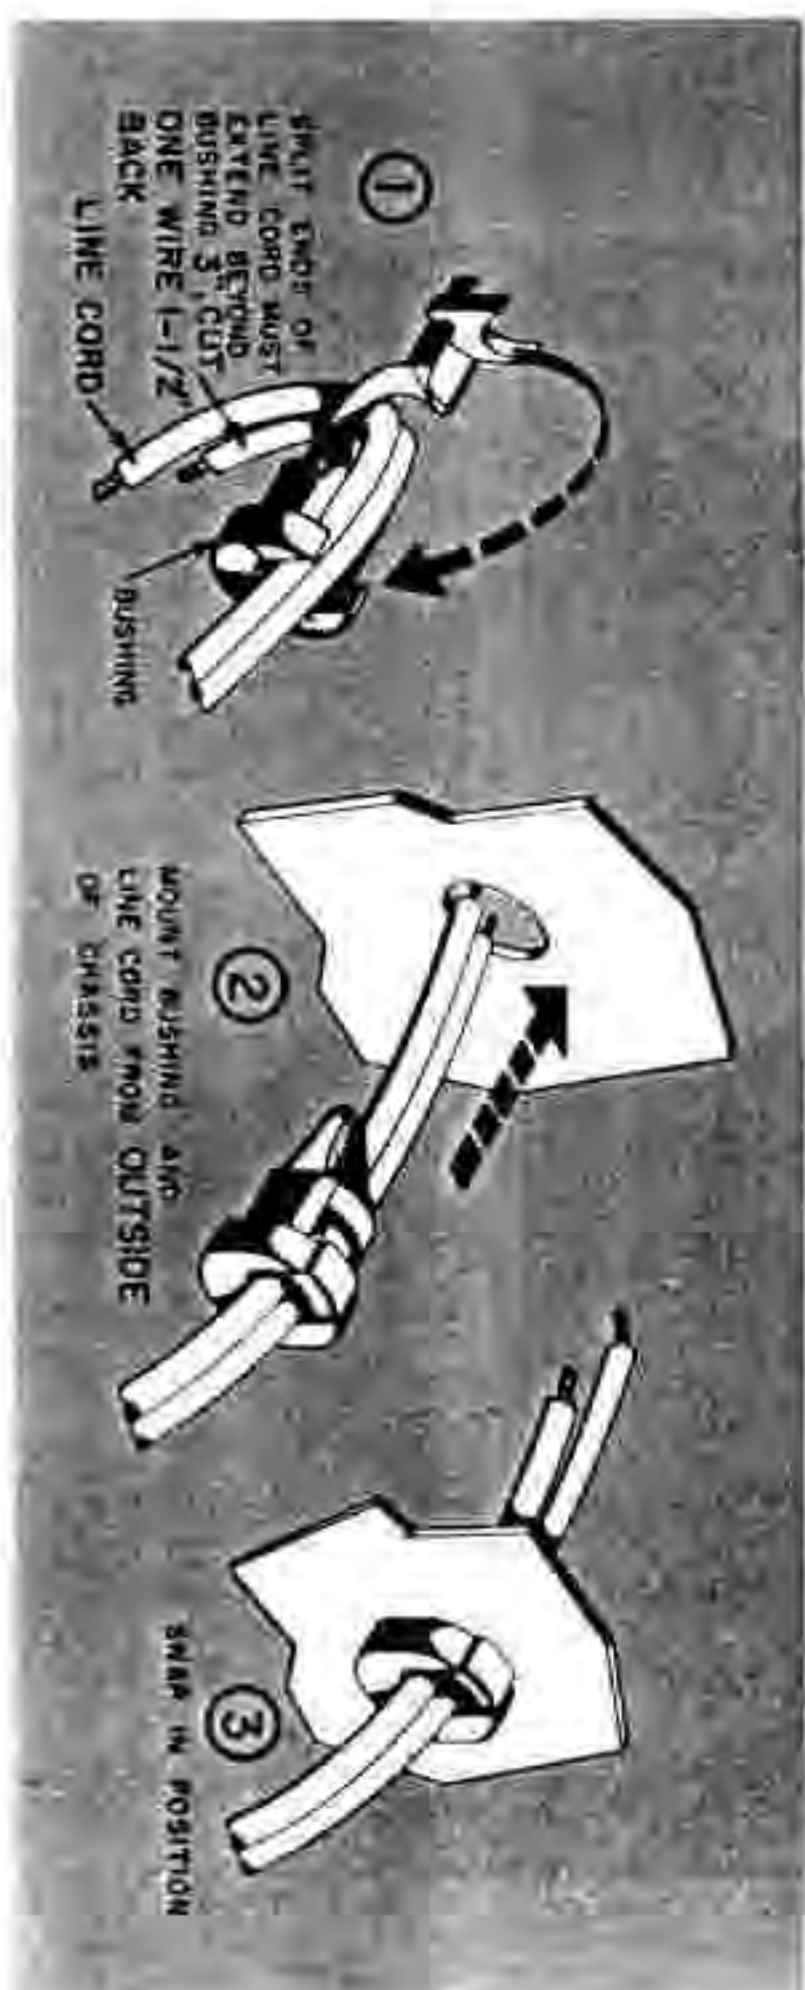

FIGURE 19. LINE CORD MOUNTING
- Line cord and bushing. Mount as shown in Figure 19. Cut 1 1/2" from one lead. Strip the insulation back 1/4". Solder the long line cord lead to terminal 5 of TS-7 (2 wires). Solder the short line cord lead to terminal 2 of the fuse holder.